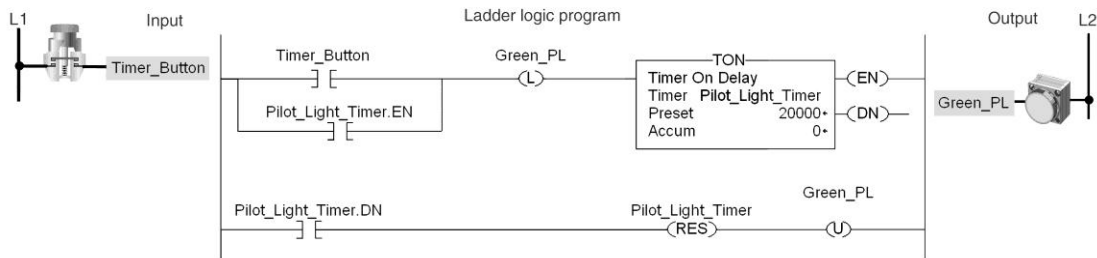

Figure 15-27 Pilot light TON timer program for assignment 3.
3) The pilot light TON timer program of Figure 15-27 is described in the text. Prepare an I/O connection diagram and ladder logic program that will simulate its operation. Utilize field devices found on your ControlLogix installation. Enter the program into the controller, and monitor its operation.